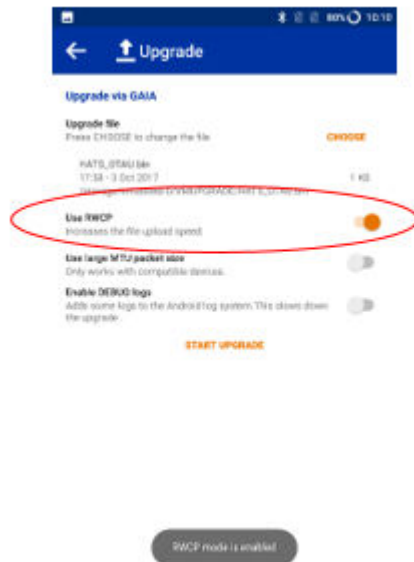

Figure 6-4 Gaia enable RWCP
- Before starting the download, RWCP, a protocol used to speed up the download, can either be enabled or disabled, see Figure 6-4